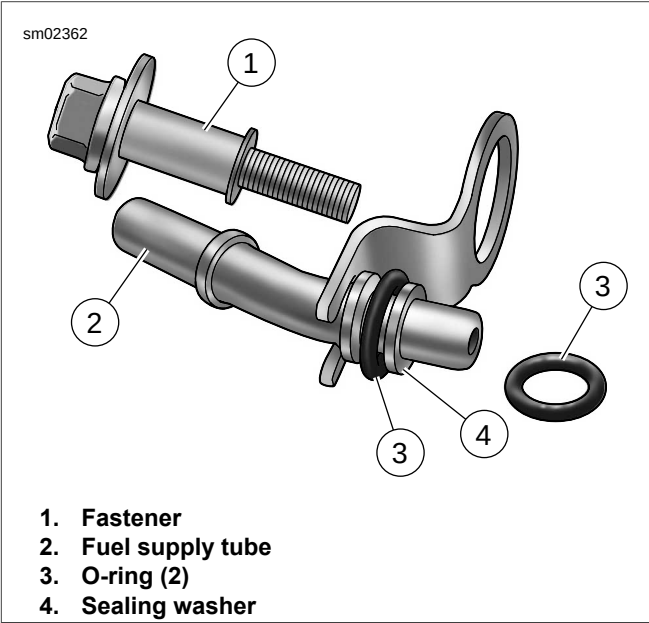
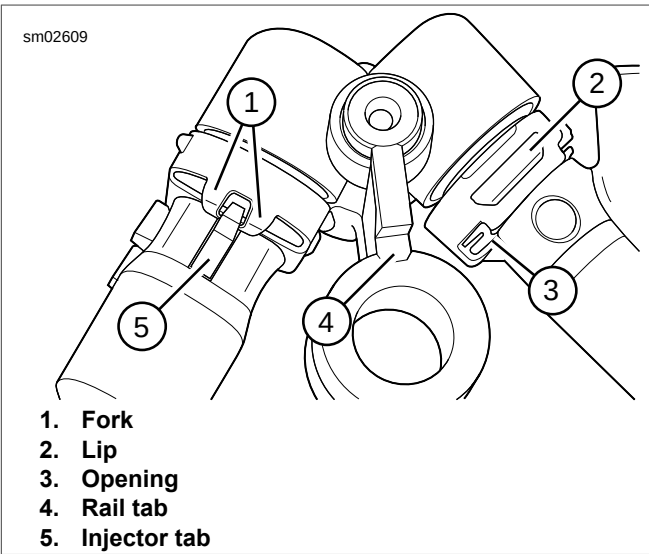

Figure 4-30. Fuel Supply Tube
Figure 4-31. Fuel Rail
2. See Figure 4-30. Remove fastener (1) retaining fuel supply tube (2).
3. Pull fuel supply tube from fuel rail. Remove sealing washer (4) and O-ring (3) from fuel supply tube. Remove second O-ring from fuel rail bore. Discard sealing washer and O-rings.
4. See Figure 4-31. With a rocking motion, pull fuel injectors with attached fuel rail from the induction module.
2. See Figure 4-31. Push electrical connector side of fuel injectors into fuel rail.
3. With the concave side toward the fuel rail, install spring clip into slot on fuel injector. In the installed position, openings (3) in sides of clip engage lip (2) on fuel rail,
5. See Figure 4-30. Slide **new** O-ring (3) down shorter neck of the fuel supply tube until it contacts the collar. Slide **new** sealing washer (4) down tube until it contacts O-ring. Install second O-ring (3) in fuel rail bore.
6. Push fuel supply tube (2) into fuel rail bore until clamp is seated on round step of fuel rail. Install fastener (1) and tighten to 90-110 **in-lbs** (10.2-12.4 Nm).